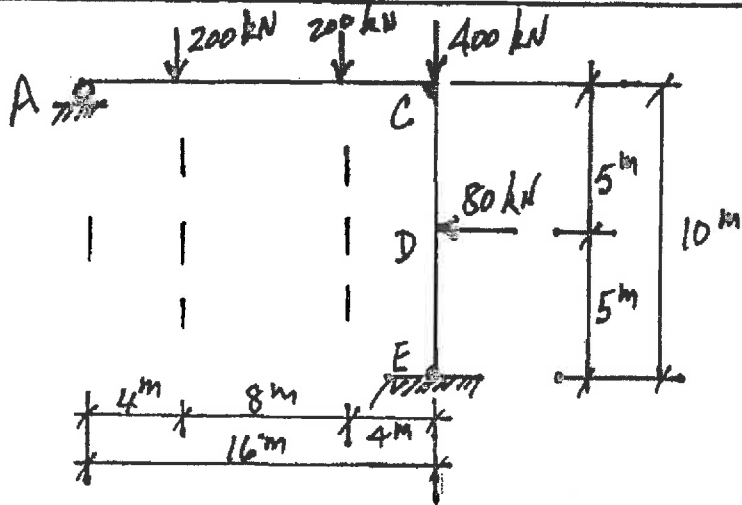

FIGURE 4
4. A rigid steel frame with a constant plastic moment capacity M_p , is shown loaded in Figure 4.
5. (a) Determine the size of the concrete footing at base E of the steel structure, Figure 4, using 300 kPa for the soil bearing capacity.
6. The rigid frame in Figure 4 is to be designed in reinforced concrete. Using the Limit States Design method:
7. Using the Limit States Design method, design a rectangular cross-section for the reinforced concrete column CE in Figure 4, carrying out the required strength and stability checks.